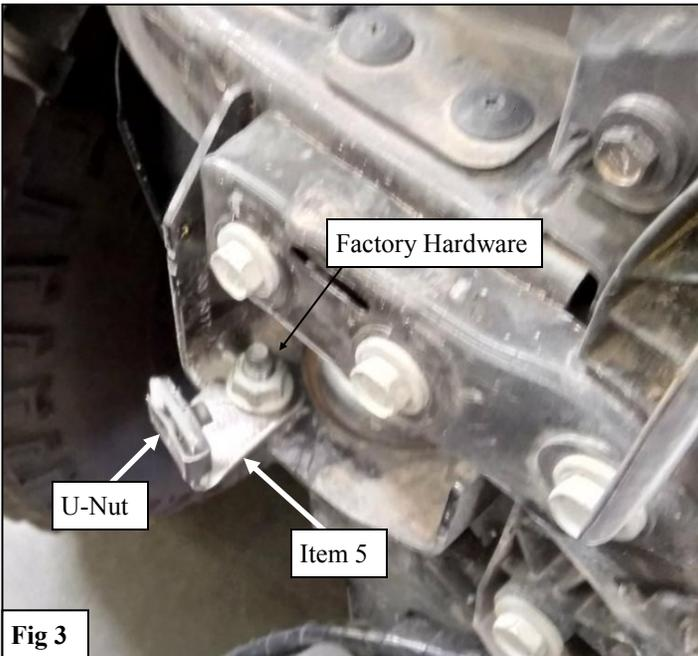

Fig 3
5. Install the Bottom Mounting Brackets (5) using the factory stud. Install the U-Nuts (10) at this time. See **Figure 3**.